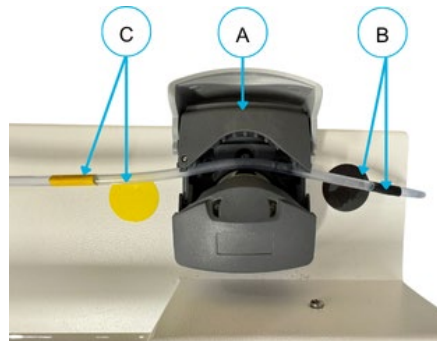

Figure 11-1: Perineal Saline Color Indicators
3. Place the Saline Needle Tubing line in the Perineal Saline Pump (**A**) on the top back side of the Generator (**Figure 11-1**).